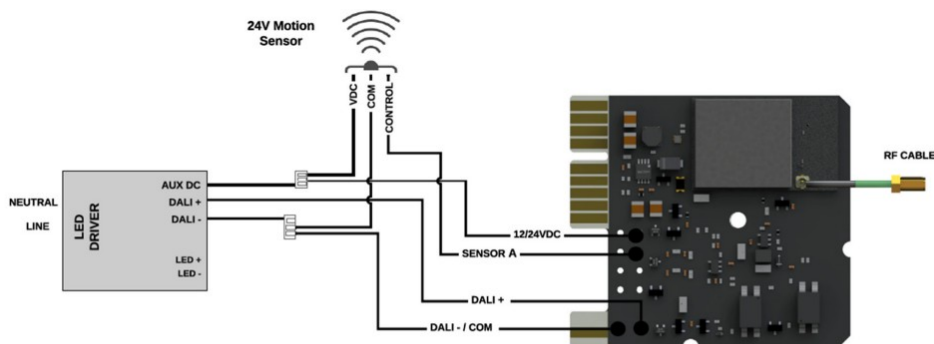

Figure 3 – D4i Wiring Diagram
24. Connect the DALI+ from the DIM10-087-06 to the LED driver DALI+. (See Figure 3)